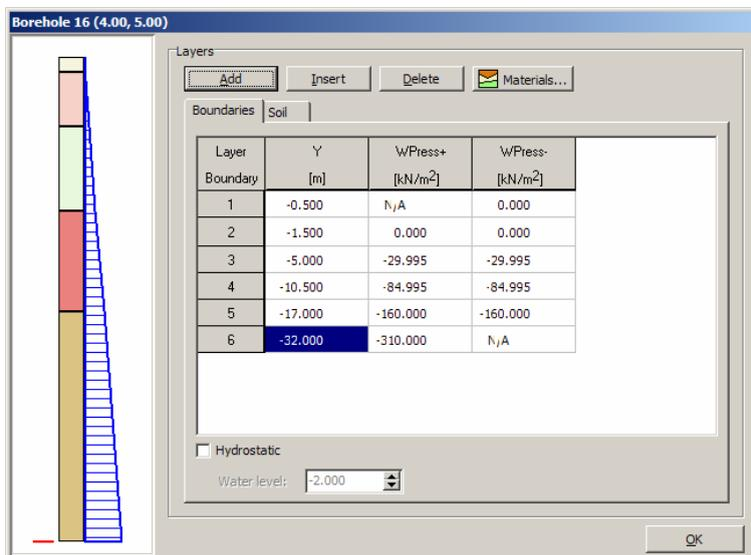

Figure 7.2 Borehole with the soil layers and pore pressure distribution
- As all soil layers for this exercise are horizontal, only a single borehole is needed. Add a borehole to the geometry and insert 4 additional layer boundaries (see Figure 7.2). The bottom of the lowest layer is at  $y = -32$  m. The level of the other layer boundaries is given in Table 11. Set the phreatic level to  $y = -2.0$  m and open the material properties window.